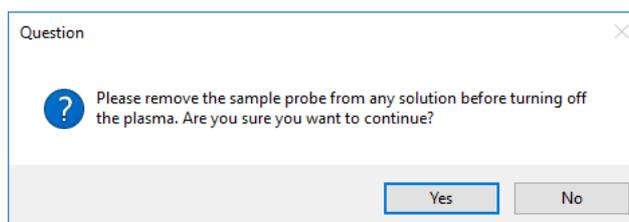

Figure 4-17. Remove probe message when shutting down the instrument
A message opens (see Figure 4-17) to ensure that the sample probe is removed from the analyte solution.
- a. If you click **Yes** (see Figure 4-17), the iCAP 7000 Plus Series ICP-OES system shuts down and the plasma switches off.
Click **No** (see Figure 4-17) if you wish to cancel the shut down process.